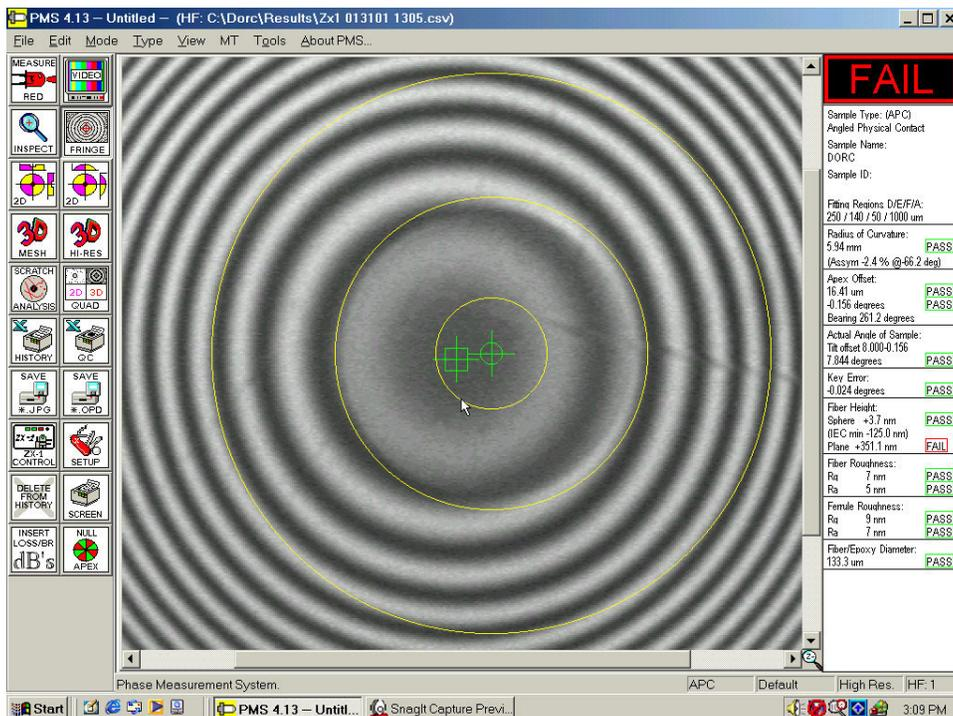

Figure 19. Fringe Screen for an APC Connector
- Activate the Measure LED icon using the left mouse key or pressing the right mouse key from anywhere on the active window. The ZX-1 will then automatically acquire phase-shifted data for the sample under test. Upon completion of the measurement, the screen will display the results along with the image selected in the Auto tab. The default image is the Fringe Screen, as shown in figure 19.